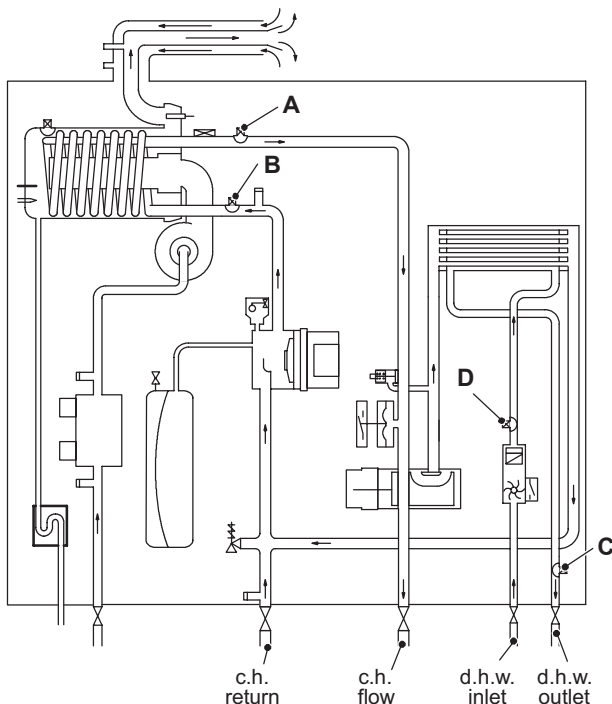
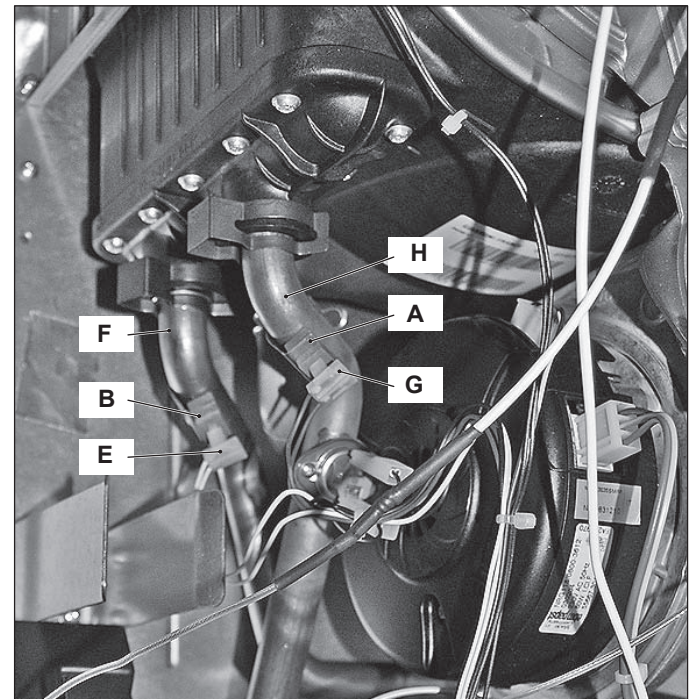
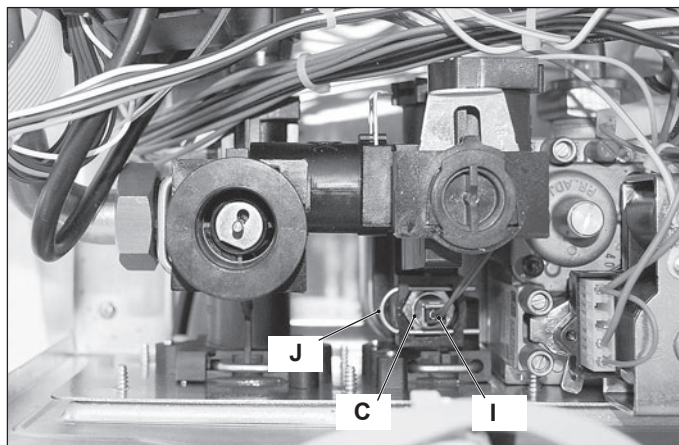
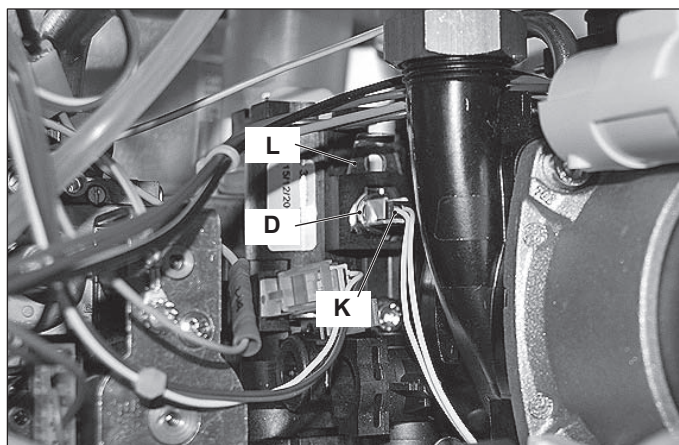

Figure 15.2
Figure 15.3
Figure 15.4
Figure 15.5
On the boiler there are four Temperature probes. Two on the input/output of the primary condensing heat exchanger (c.h. Temperature probe) A and B in Figure 15.2 and Figure 15.3; two on the input/output of the d.h.w. heat exchanger (d.h.w. Temperature probe) C and D in Figure 15.2, Figure 15.4 and Figure 15.5.
- 3 Remove the electric connector G and E and unscrew the c.h. Temperature probes A and B (Figure 15.3).
- 3 Remove the electric connector I (Figure 15.4)
- 8 Remove the electric connector K (Figure 15.5)